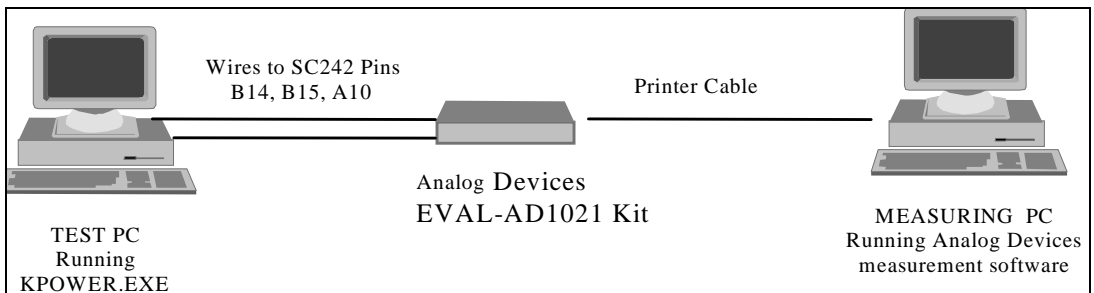
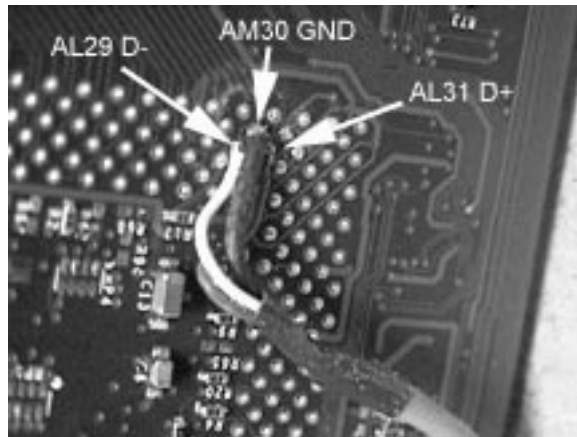
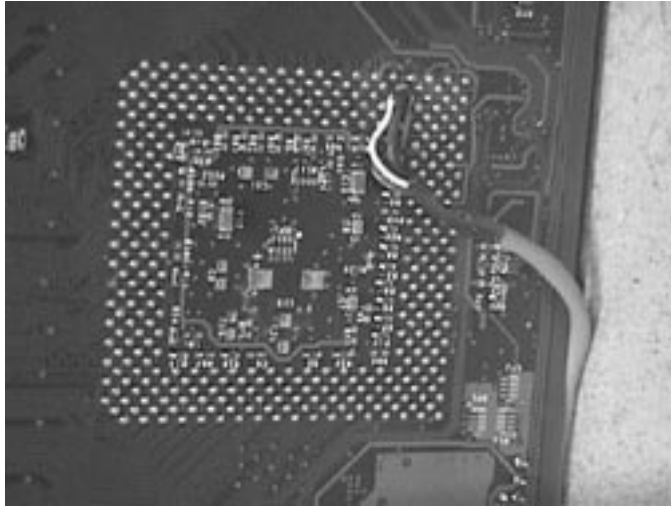

Figure 2 Measurement Setup
Figure 8 Back side motherboard connections to PGA370 Socket
Figure 9 Back side of motherboard with PGA370 connections
This section outlines the electrical connectivity for the Analog Devices EVAL-AD1021 Kit to measure the on-die diode. Figure 2 Measurement Setup is a diagram of the test setup. For details on locating SC242 pins refer to Figure 8 of the SC242 Connector Design Guidelines.
- 4) Solder a shielded twisted pair cable to the PGA370 socket on the target MB. AL31 (+), AL29 (-) and the shield to AM30 (ground). See Figure 8 and Figure 9.